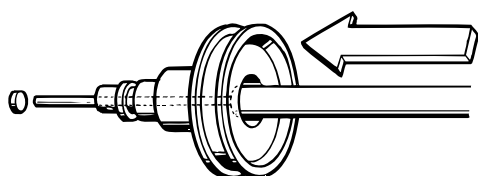

Fig. 3 - HP seat removal
17. To remove the high pressure seat(19) from the end of the piston shaft, carefully insert a Seat Extraction/ Installation Tool (P/N 1094-36) through the opening in the center of the piston head (see Fig. 3). Press the rod portion of the tool through the piston until the seat exits the end of the shaft. (Do